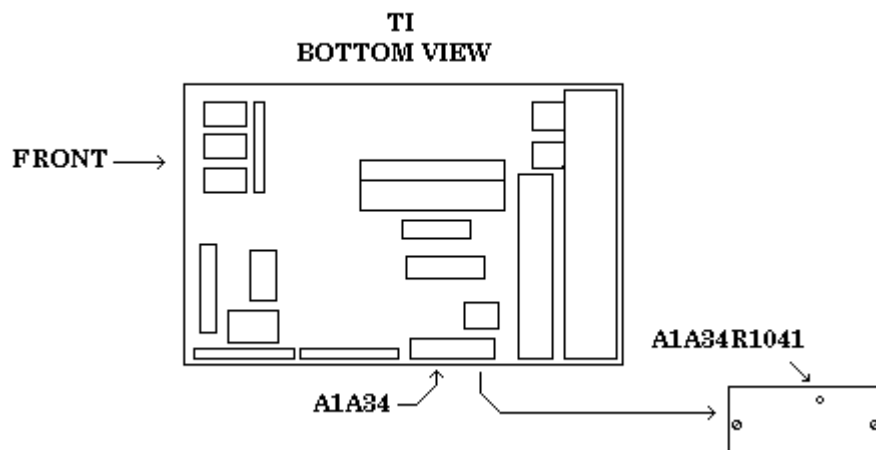

Figure 2. Cal out level adjustment.
(1) Disconnect equipment setup.
(2) Press and release TI spectrum analyzer **POWER** key to **OFF**.
(3) Disconnect TI power cord.
(4) Set TI spectrum analyzer on its front panel.
(5) Loosen four screws through the back rubber feet.
(6) Pull cover up and off.
(7) Place TI on its top and reconnect power cord.
(8) Connect measurement receiver power sensor to **TI CAL OUT**.
(9) Depress TI spectrum analyzer **POWER** key to **ON**.
(10) Adjust A1A34R1041 (fig. 2) for a  $-20.0 \pm 0.3$  dBm indication on measuring receiver (R).